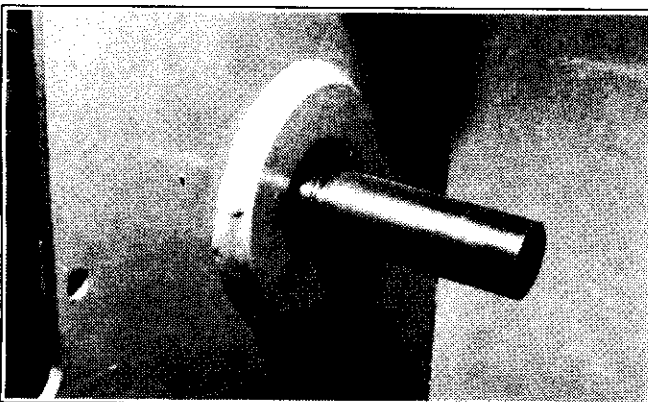

Figure 6-21
8. Install the remaining spacer sleeve on the cluster shaft. (See figure 6-21) (2 bearing system only)